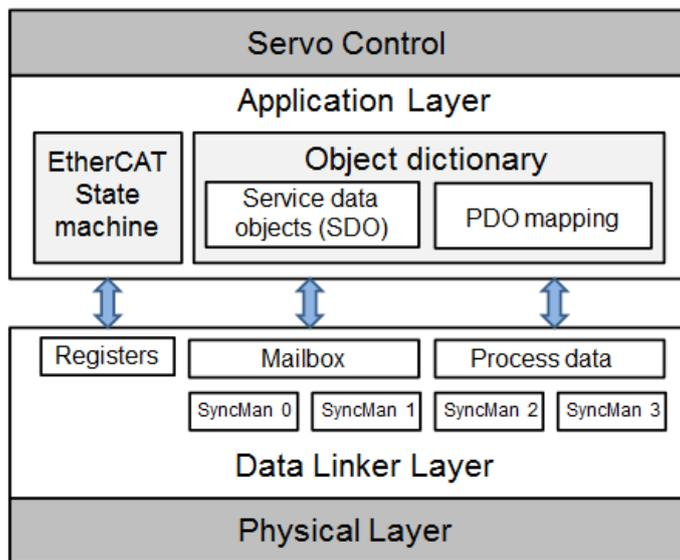

Fig. 2-1
The communication architecture of network module for CoE (CANopen over EtherCAT) drive can be divided into two layers: data link layer (DL) and application layer (AL), as shown in Fig. 2-1. The data link layer manages the interface of data transmission between the master and slave stations. On the other hand, the application layer implements the function of state transition compatible between CiA 402 (CANopen Drive Communication Protocol) and EtherCAT.